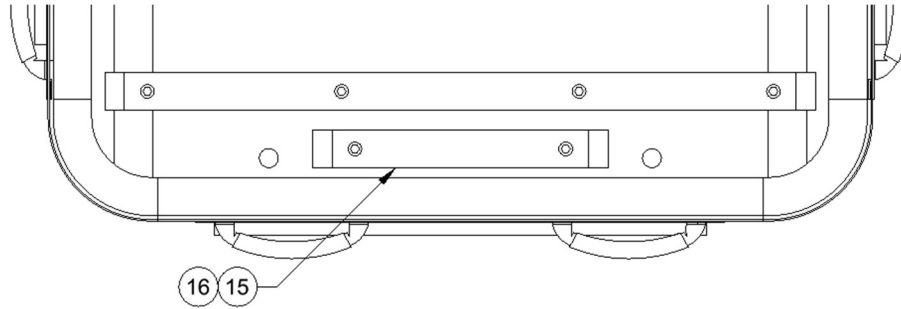
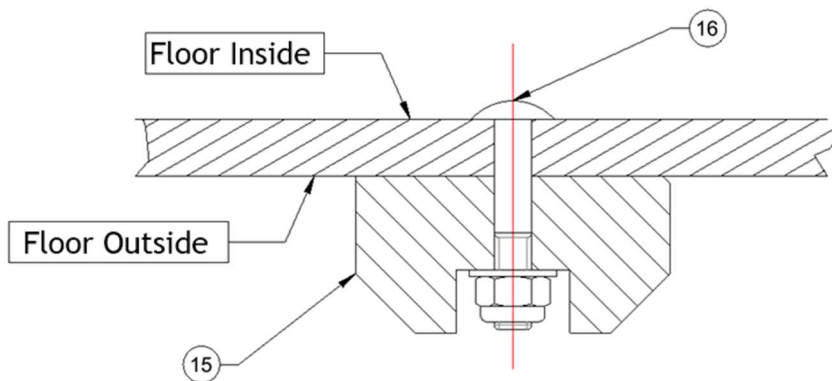

Figure 2 - shows the Runner fastened to the outside of the basket floor.
Figure 3 - shows the required orientation of the fasteners.
3. Attach the Runners to the outside of the Basket Floor using M6 Fasteners (Item 16), see Figure 2. Make sure that the head of the fastener is on the inside of the basket floor and that the stem of the bolts is sub-flush with the Runner. Cut to suit if they overextend, see Figure 3.